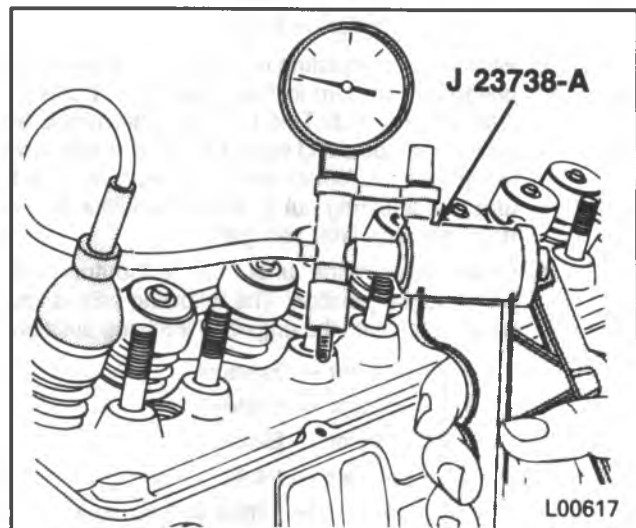

Figure 7 — Testing The Valve Seals
- Check each O-ring seal for leakage (figure 7).